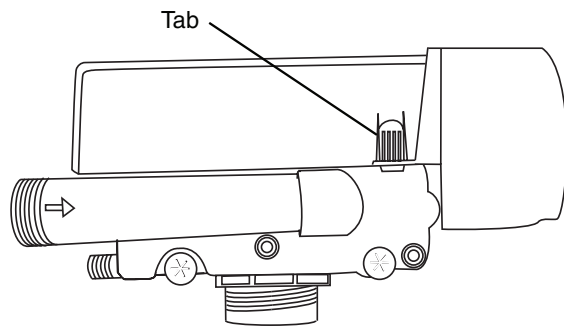

Figure 5.3
3. Remove the rear cover by depressing the two tabs provided on the cover, Figure 5.3. Lift the front of the cover and remove to expose the valve body.